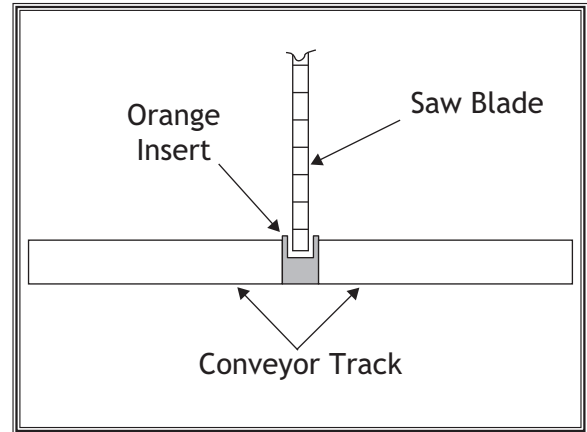

Figure 16. Illustration of correct saw blade height from conveyor track.
4. Use the blade elevation handwheel to adjust the saw blade so that the tooth is just below the surface of the conveyor track, but not making contact with the orange insert in the middle of the track (see Figure 16).